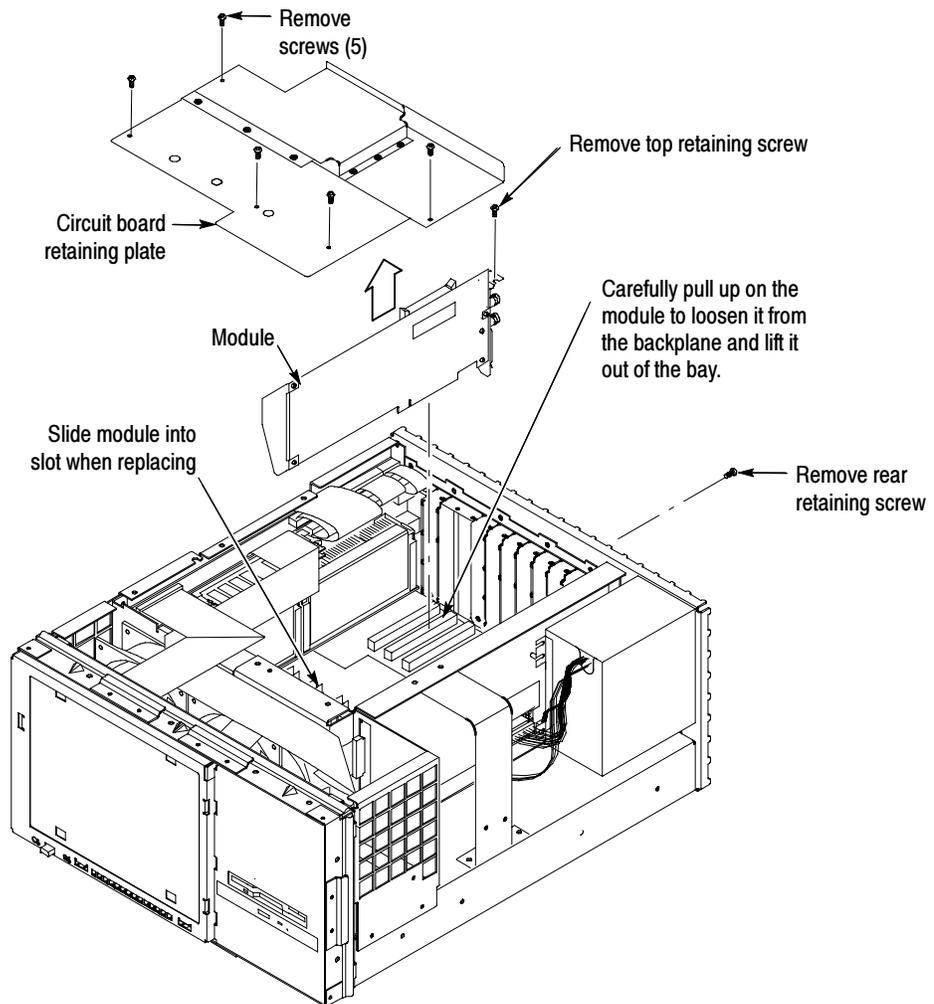

Figure 14: Removing a module
5. Remove the circuit board retaining plate (see Figure 14).